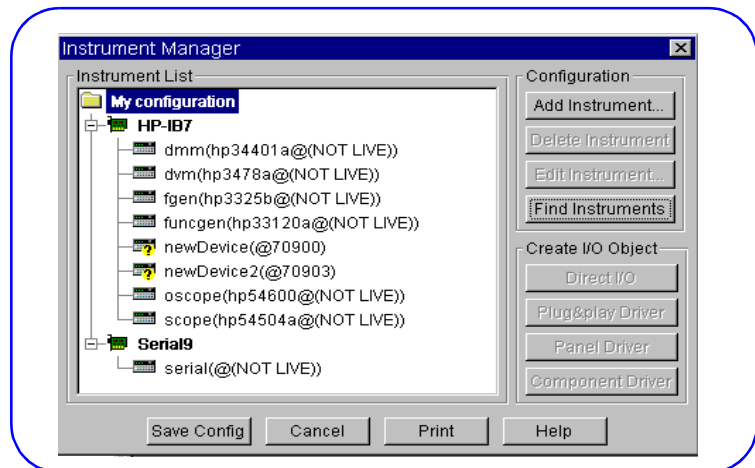

Figure 35. Instrument List Screen
- 2 Be sure *My configuration* is highlighted. Then, click the *Find Instruments* button to find all instruments (see Figure 35).